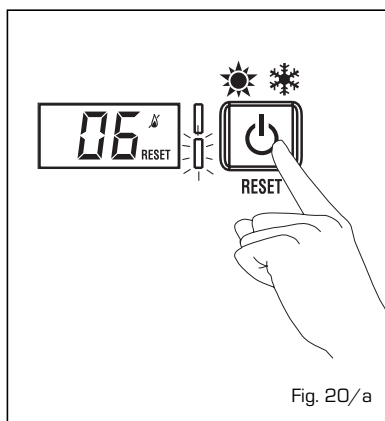

Fig. 20/a
- SAFETY THERMOSTAT ERROR ALARM 07 (fig. 20/b)